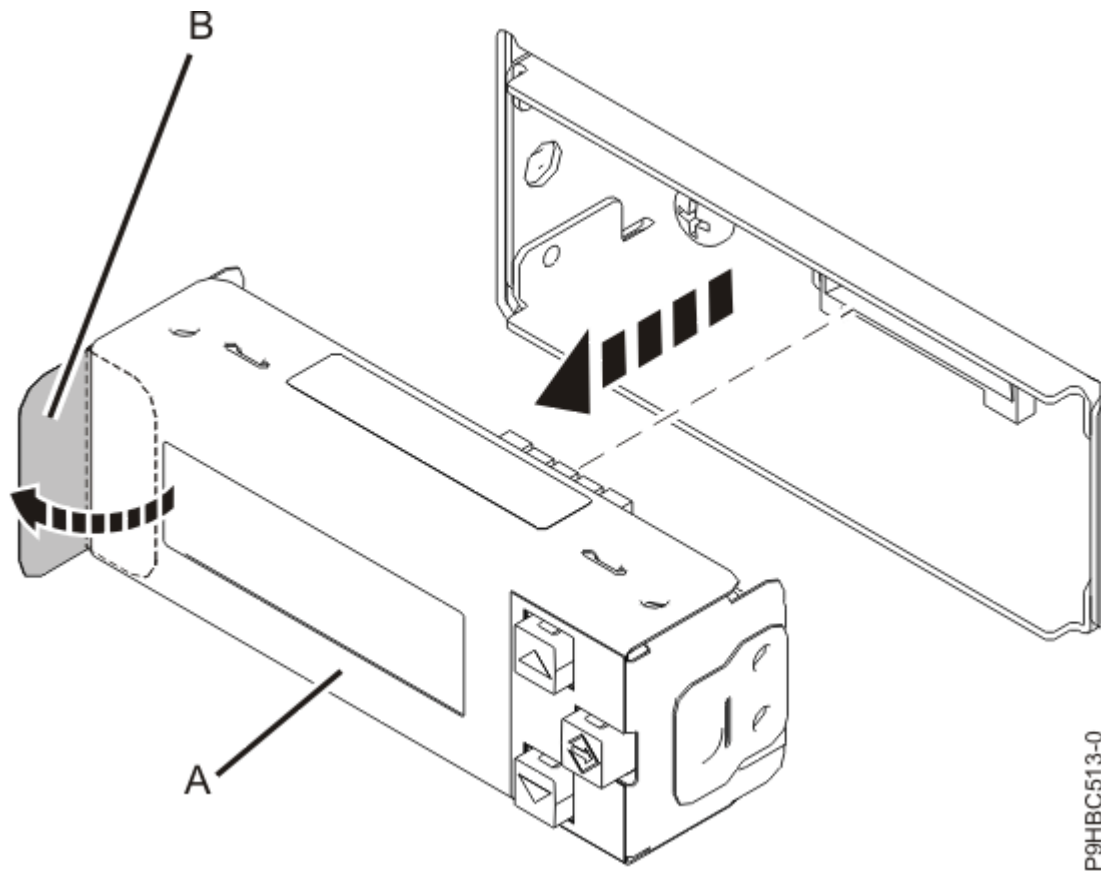

Figure 20. Removing the control panel display
2. Remove the control panel display **(A)** by pulling the tab **(B)** as shown in Figure 20 on page 22.